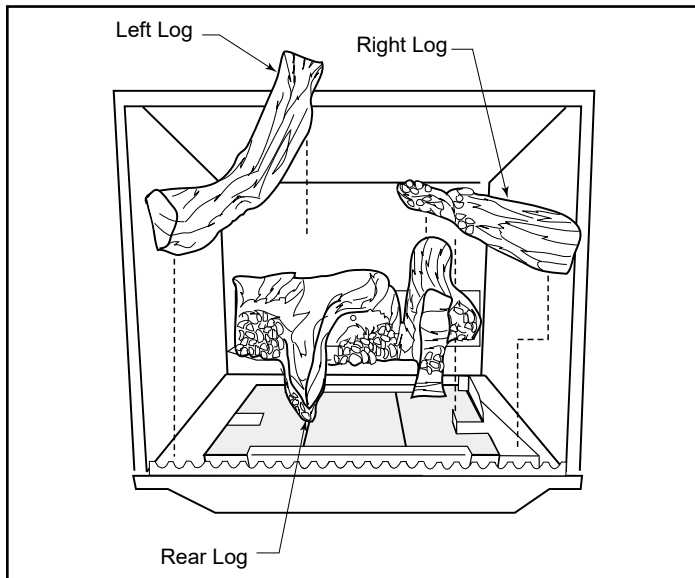

Figure 2.9 - Install rear, left and right logs.
2. Install the rear log by placing it on the sheet metal shelf at the back of the firebox, Figure 2.9. The log should touch the back wall of the firebox and be centered.
3. Install the right log by placing it on the sheet metal bracket behind the grate with the right end of the log, “the thicker end”, touching the grate and the right side the firebox. Swing the left end of the log “painted end”, backward until it comes in contact with the branch on the rear log. Set the log down over the bent tab on the right. When the log is in place it rests on the tab mentioned earlier and the tip of it comes in contact with the branch on the rear log, Figure 2.9.